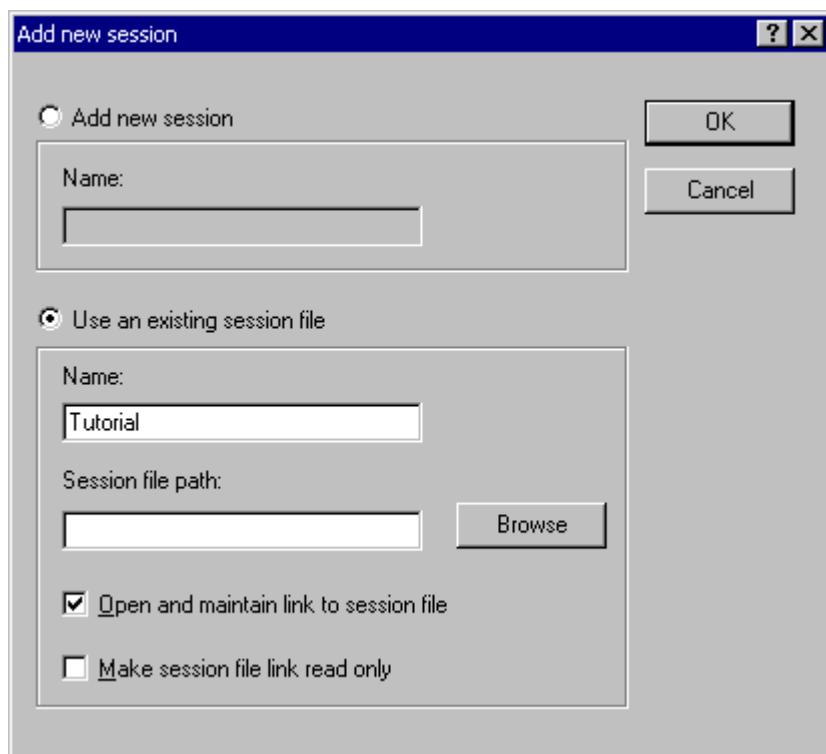

Figure 4.18 [Add new session] Dialog Box
2. Click the [Add...] button to display the [Add new session] dialog box (figure 4.18).